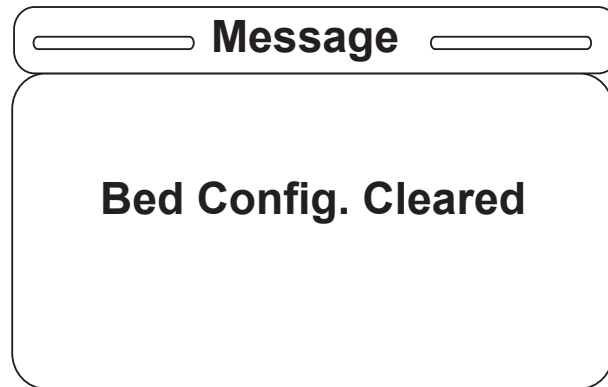

Figure S-34
- Once the user hits "Enter," the previously set Bed Config. items (Bed Type, Bed Options, Serial Number, Height Limits or Fowler Limits) will be erased and the message in Figure S-34 will be displayed.